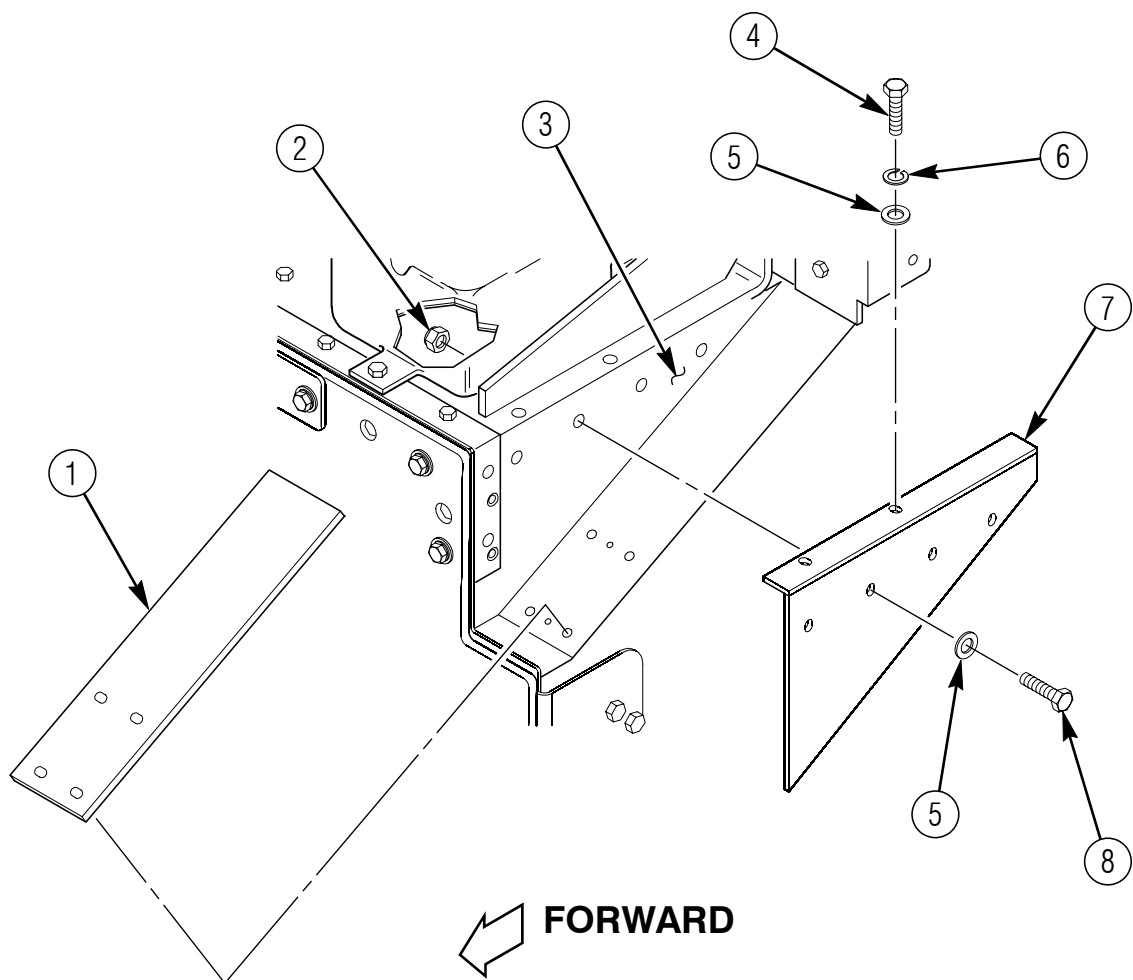

Figure 8.
1. Install 6434245-01M1 or 6434245-200M1 left front cowl outer armor (7) on left front cowl (3) with six 4397000-010 capscrews (4 and 8), two 4397004-006 lockwashers (6), six 4397005-011 washers (5), and four 4397064-001 locknuts (2) as shown in figure 8. Tighten two capscrews (4) to 6 lb-ft (8.1 N·m) and four capscrews (8) to 10 lb-ft (13.6 N·m).
2. Place 6434243-01M1 or 6434243-200M1 left front cowl lower armor (1) on left front cowl (3) as show in figure 8. Align mounting holes.